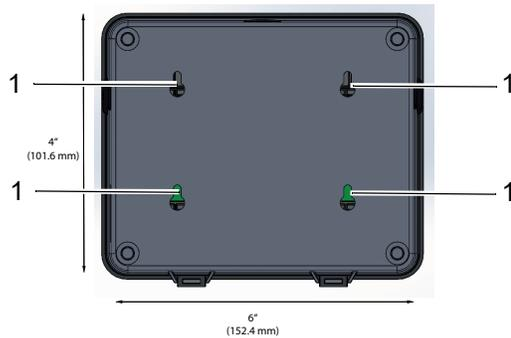

Fig. 3 Back of device
- With the appropriate hardware. Make sure the hardware is suitable for the mounting surface and can withstand 40 lb (18 kg) without loosening or causing damage to the hardware or mounting surface. Use all four mounting holes provided on the device (See Fig. 3).